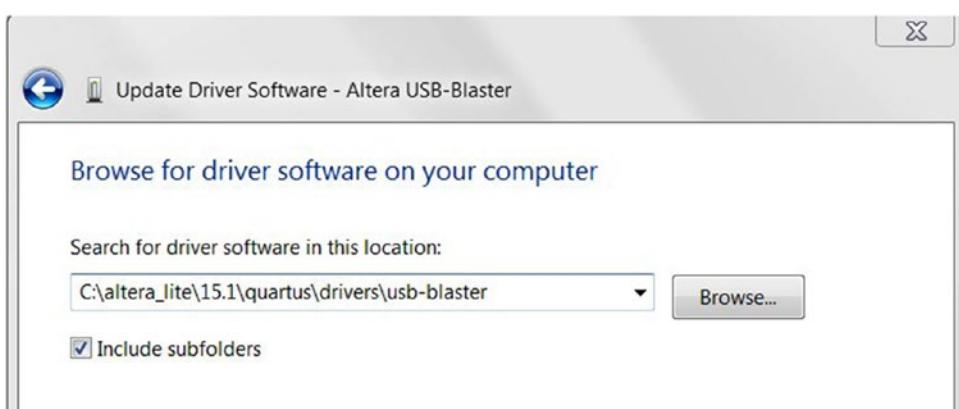

Figure 4-54. Update Driver Software - Altera USB-Blaster
- Click **Browse**, and browse to the `C:\altera_lite\15.1\quartus\drivers\usb-blaster` directory. Note: Do not select the `x32` or `x64` directories. Click **OK**. Select the **Include subfolders** option, and click **Next** (Figure 4-54).